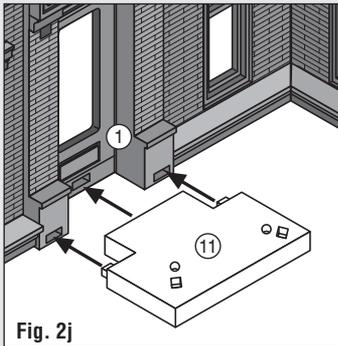

Fig. 2j
- Slide Small Entry Step ⑪ into place on Wall ① (Fig. 2j). Apply glue along seams on underside of building.